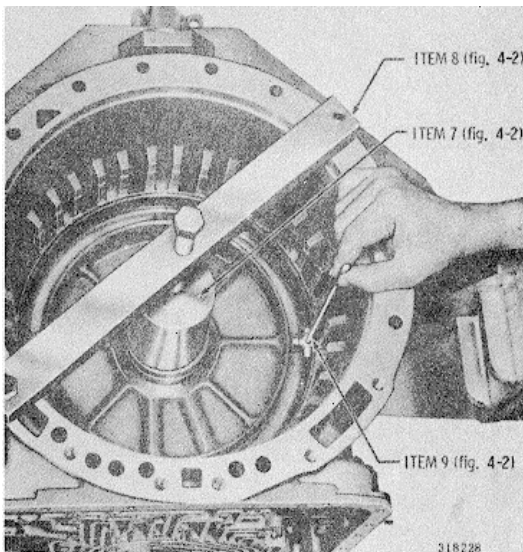

Fig. 7-6. Checking selective snapping clearance
(6) Place compressor sleeve 7 (Fig. 4-2) on the hub of the center support. Place compressor 8 (Fig. 4-2) across the transmission housing. Retain the compressor bar with two bolts (Fig. 7-6).
(7) Compress the center support with a force of 5 pound feet (6.78 Nm) torque. Use gage 9 (Fig. 4-2) to determine the width of the snapping opening while the support is loaded (Fig. 7-6). The lugs of the gage are color coded to match the snapping colors. Select one of the snaprings listed below. Select the thickest snapping that can be put into the groove.